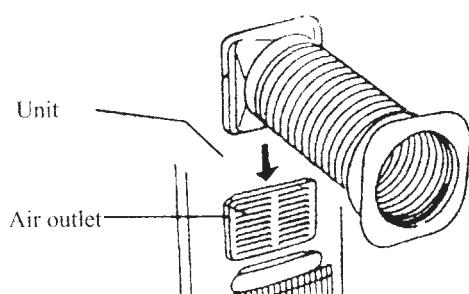

Fig. 188
(1) When cooling, attach one end of the exhaust air outlet of the unit to the dehumidifier air outtake
(2) Attach the other end of the duct to the nearby window, see fig 188,189.